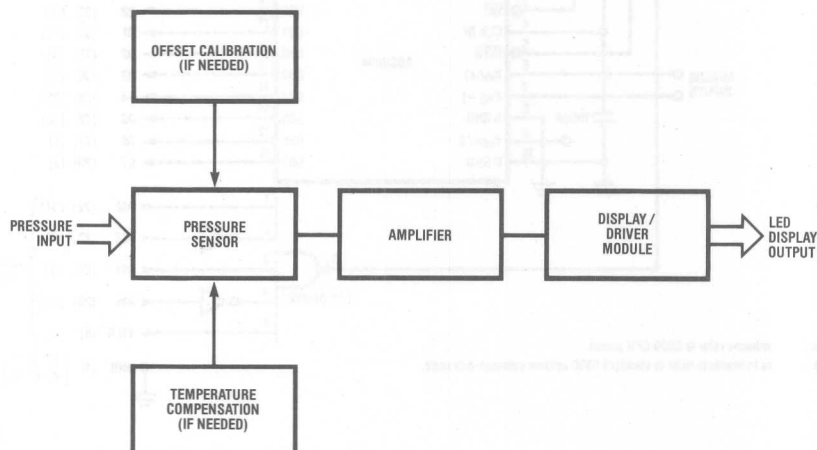

FIGURE 1
requirements of the A/D converter. The circuit shown in the left half of Figure 1 performs this amplification and provides a 0 to 5V signal which is compatible with the input requirements of most A/D converters (see SSAN-18 for details on this amplifier design). Although resistor values for the 0-1psi application are shown in Figure 1, Table 1 shows the resistor values for R_1 for various LX06XXX sensors to obtain the required 5V span.
R_S and R_P combined make up R_1 shown in Figure 1.
To the basic amplifier design of Figure 1, the only additional components required are those associated with amplifiers E and F. Amplifier E is used to give a non-inverting gain of two (2) and amplifies the 2.5V zener reference to provide a +5V supply voltage to the A/D converter. Amplifier F uses the +5V in conjunction with the resistor divider string, and resistor R_3 to set the reference voltage for the A/D converter. The advantage of using amplifiers E and F in this manner is that the +2.5V zener (LT1009) has also been used to establish V_B , the +10V supply at the top of the pressure transducer bridge. Now the LT1009 becomes the master reference in the system. Should the reference voltage change, the voltage at the top of the bridge will change, but so will the reference to the A/D converter. In this manner the circuit is ratiometric to the LT1009 reference and the output of the A/D will not be affected by changes in the supply voltages or the reference voltage.
conductor processing areas, air conditioning, and the like, where air filters are used to trap dust particles. For example, a 1psi (28 inches of water column pressure) drop across the filter may indicate that the filter was clogged and needed replacement, whereas a drop of 6 inches of water column pressure would represent a clean filter, and zero pressure drop would indicate that the filter has not been put in place! It is now a simple task for a microprocessor to keep track of the filter, with an output from the A/D converter of 0000 0000 representing the filter has been omitted, 0011 0111 representing a clean filter, and 1111 1111 a blocked or clogged filter. Codes in between can represent degrees of blockage and signal cautionary or change filter indicators. Since the LX06001D has a full-scale exactly corresponding to the 1psi (28 inches W.C.) pressure range of interest, the resistor values of $R_S = 90.9\Omega$ and $R_P = 50\Omega$ pot shown in Table 1 can be used. The complete circuit is shown in Figure 1. After following the aforementioned adjustment procedure to set offset, span, and $V_{REF}/2$, the output of the A/D converter will change from 0000 0000 to 1111 1111 for a 0-1psid pressure input.
It should be noted that the A/D converter, as shown in Figure 1, is in a free-running mode. The clock frequency, which is set by the components on pins 19 and 4, is 667 kHz, and provides a fast conversion rate without introducing any converter errors. Notice after power-up $\overline{WR}$ must be momentarily grounded to reset the internal logic and ensure proper operation. The ADC0804 functions as follows: with $\overline{CS}$ tied low, the converter will reset and start a new data conversion when $\overline{WR}$ goes low. After the conversion process, $\overline{INTR}$ goes low and, since $\overline{CS}$ and $\overline{RD}$ are tied low, the converted data is transferred to the 3-state data outputs. Since $\overline{WR}$ is connected to $\overline{INTR}$, $\overline{WR}$ will again go low and a new conversion started. The completion of one conversion automatically starts another conversion.
The basic design of this system is quite simple, as shown in Figure 1. The key features of this specific design are in its ease of adjustment and use of reliable, proven off-the-shelf components. To keep costs and number of components to a minimum, the SPX series pressure sensor is combined with the NSM3914 LED driver/display module from National Semiconductor. As shown in Figure 1, only an amplifier is then needed to interface these two components. To complete the design, a resistor network is added for offset adjust since this is an unadjusted sensor and span temperature compensation has also been included to minimize errors over temperature.